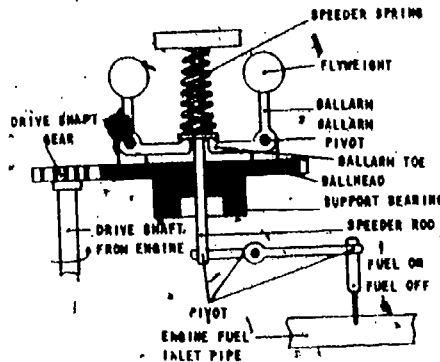
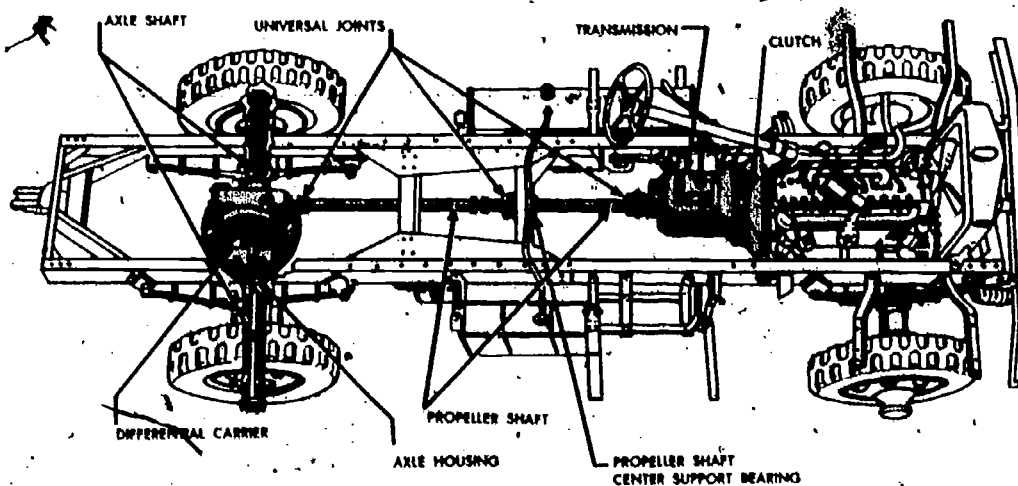

Fig 2-34. Schematic of mechanical governor.
Fig 2-35. Wheeled-vehicle power train.
(1) Principles. Any change in the load on an engine immediately changes the engine speed. An engine receiving a constant amount of fuel will operate at a constant speed if the load is constant. If the load changes, the fuel must change or the engine speed will change. The time required for an engine to change from one speed to another is affected by the inertia of the engine's flywheel and other moving parts. A large heavy flywheel requires more time to change speeds than a smaller light flywheel. Governor flyweights connected to a rotating shaft will produce a centrifugal force proportionate to the speed. As the shaft rotates, the weights tend to move away from the center. You can demonstrate this principle by using your ID, "dog tags." Place the chain over your finger and swing in a circular motion. Notice that the faster you swing the more horizontal the tags become and that there is more pull on your finger. These basic principles are employed by mechanical and hydraulic engine speed governors.
(2) Mechanical governor (fig 2-34). The first action of the governor is to accurately measure the speed. This is performed by the ballhead (flyweight) mechanism which is rotated by gears at speeds proportionate to the engine speed; any change in the engine speed will affect the rotation speed of the ballhead. To oppose and balance the centrifugal force, a spring is used. As the centrifugal force causes the weights to move out, the speeder spring is compressed. When the centrifugal force and the speeder spring tension are balanced, the engine speed is normal for that governor. The toe of the ballarm has moved a certain distance and the flyweights have taken a definite position in relation to the axis of rotation. The second step of the governor is to control the fuel. This is accomplished by placing a fuel control rod in contact with the ballarm toe and the spring. Any movement caused by their action is transmitted to the fuel control. Study fig 2-35 and you should see that if the flyweights move outward, the speeder rod (fuel control rod) will be lifted, and if the flyweights are forced inward by the spring tension, the speeder rod will move down. Through linkages, the speeder rod is attached to the engine fuel
b. **Wheeled vehicle.** The development of wheeled-vehicle construction equipment has made tremendous strides in recent years. Military construction equipment has kept pace with civilian efforts and an increasing proportion of the equipment you will operate will have power trains similar to that in figure 2-35. Examine the figure closely and trace the flow of power from the engine to the wheels.